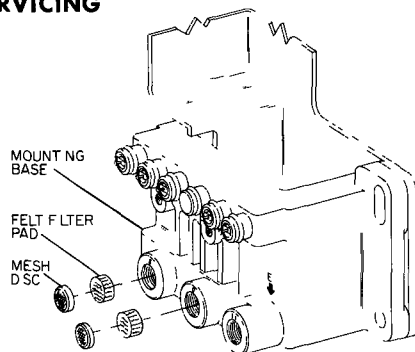

FIGURE 6 Replacing the Filter Pads
a. Turn OFF supply air and disconnect supply air and output lines (Figure 6)
b. Remove wire mesh disc (Figure 6) and felt pads with pick or similar instrument.